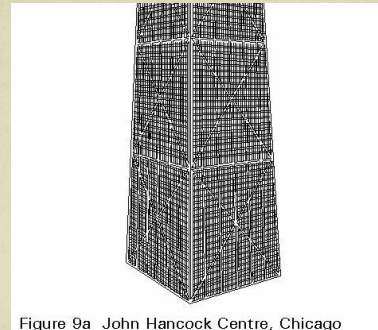

Figure 9a John Hancock Centre, Chicago
- ❖ This system was first introduced in the John Hancock Centre in Chicago, a multi-use, 100-storey structure (Figure 9a).